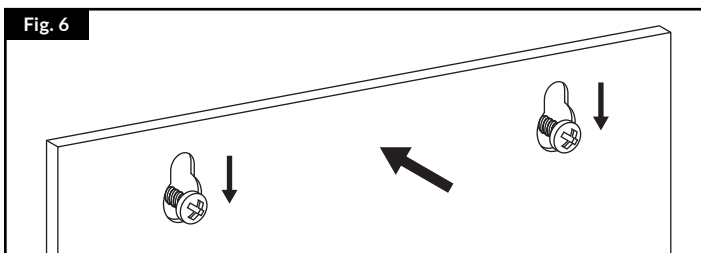

Fig. 6
- **Hang the Dispenser:** Hang the unit by lining up the pre-drilled holes on the back of the dispenser with the installed mounting hardware (Fig. 6).